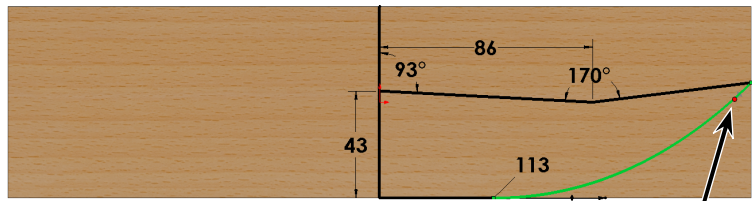
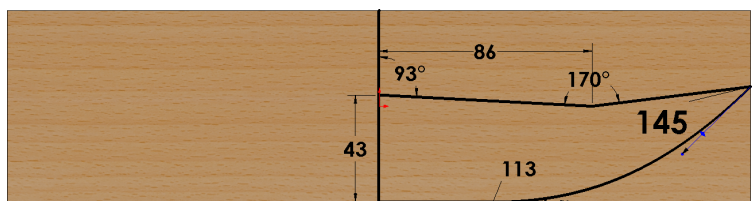

Fig. 8
Fig. 9
Step 6. Dimension Spline Point 2 **Tangent Weighting1 145**, **Fig. 8** and **Fig. 9**. To dimension Tangent Weighting, click the **Circular Spline handle** , **Fig. 8**. Then move the cursor out away from spline and click. Key-in 145 and press ENTER.